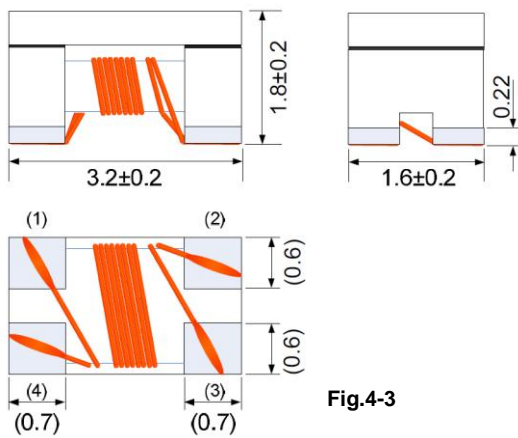

Fig.4-3
①	Lid	Ni-Zn Ferrite
②	Epoxy	Epoxy resin
③	Wire	Polyurethane system enameled copper wire
④	Core	Ni-Zn Ferrite
⑤	Electrode structure	(Ag-Pd)+Ni+Sn plating
- b) Dimensions: See Fig. 4-3.